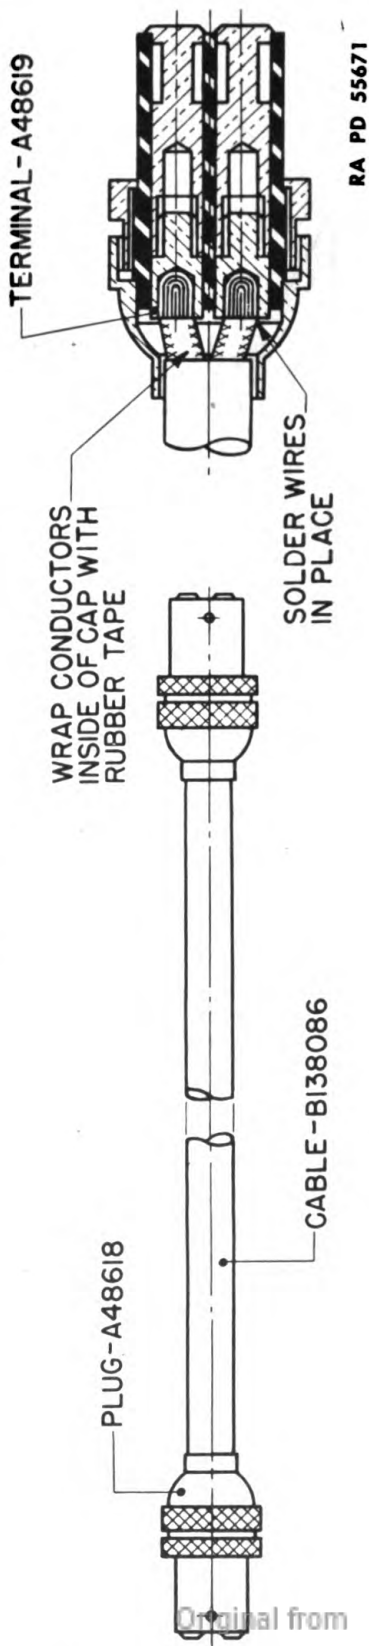

Figure 15—Extension Cable
b. **Extension Cable and Plug Assembly.** A two-conductor cable, 20 inches long, with plugs (fig. 15) is provided for transmitting power to the lamp in the telescope lamp bracket. This cable plugs into the socket A178646 on the under side of the deflection worm housing and socket A34885 on the telescope lamp bracket.